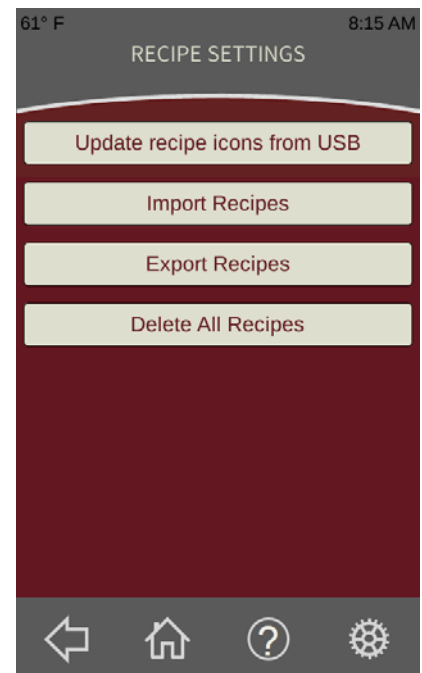

Fig. 61
- Update recipe icons from USB (Fig. 61) allows for icons from a USB flash drive to be uploaded to the controller.
- Import Recipes (Fig. 61) uploads recipes from a USB flash drive and adds them to the oven recipe directory. If the recipes on the USB have identical names as those already on the oven, the recipes on the oven will be overridden.
- Export Recipes (Fig. 61) downloads the recipes in the oven directory to a USB flash drive.
- Delete All Recipes (Fig. 61) will delete all recipes in the oven directory. A prompt will appear before all recipes are permanently deleted.